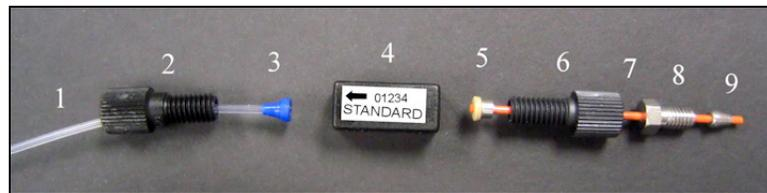

Figure 3-2: Shearing assembly components
|  | <p>The shearing assembly must be oriented correctly, both to prevent irreversible damage to the orifice, and to function properly. Refer to Figure 3-2 and the instructions below to ensure that you install the shearing assembly correctly.</p> |
1. Check to see that the components of the shearing assembly are correctly oriented, as described above (Figure 3-2: Shearing assembly components)